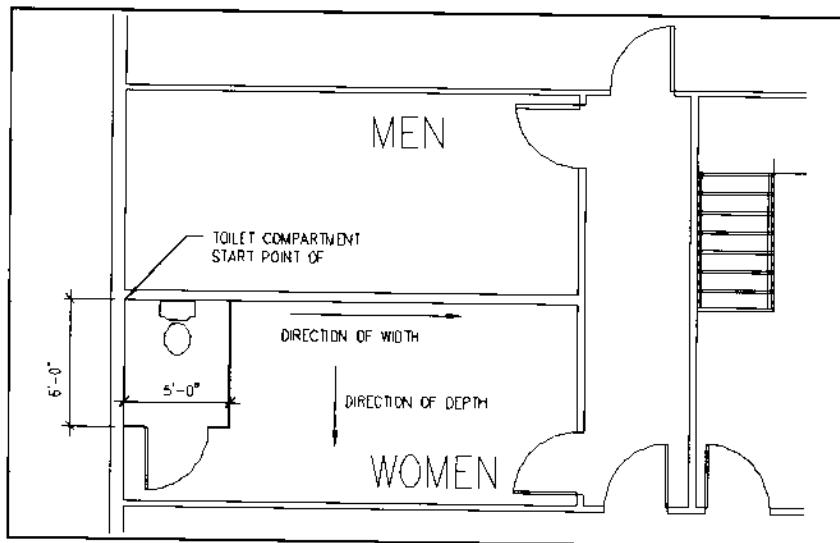

Figure 73.
4. Begin drawing the stall at the top left corner of the room and proceed to the right, as shown in Figure 73.
- > Indicate direction of depth: [select point toward the bottom of screen as shown in Figure 73]